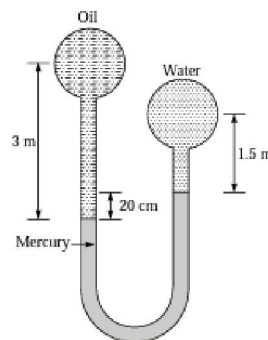

Figure 1.
- 1 a) Two pipelines, one carrying oil of relative density 0.9 and other carrying water are connected to a manometer as shown in Figure 1. By what amount, the pressure in water pipeline should be increased so that mercury levels in both the limbs of the manometer become equal? (8)